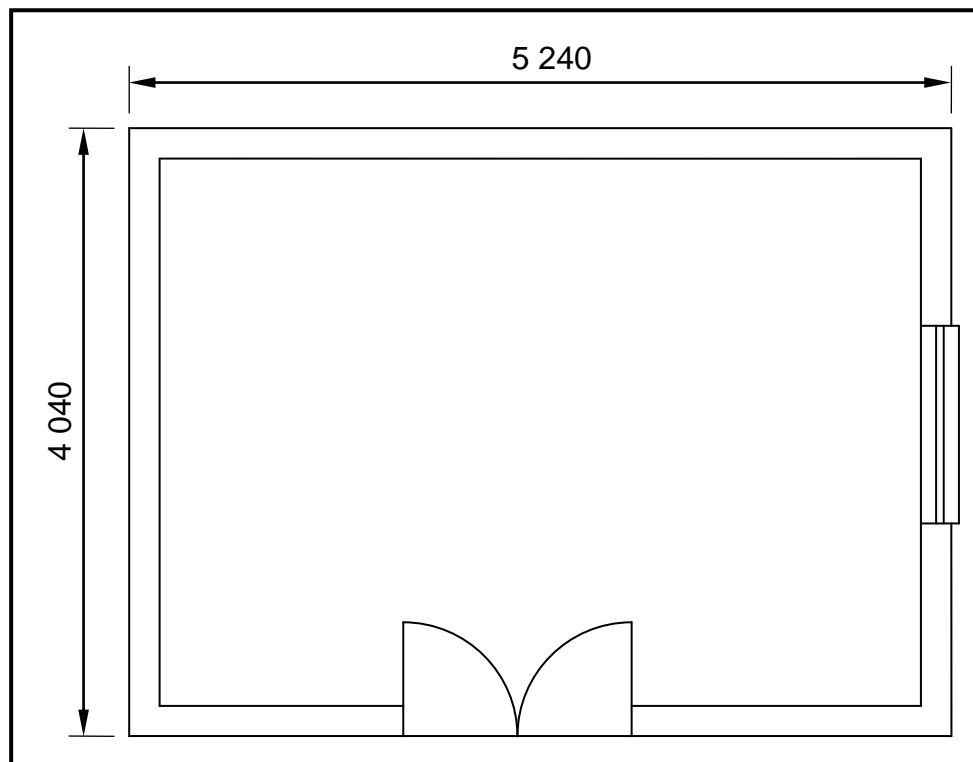

FIGURE 4.3
4.3 FIGURE 4.3 below shows the floor plan of a store room.